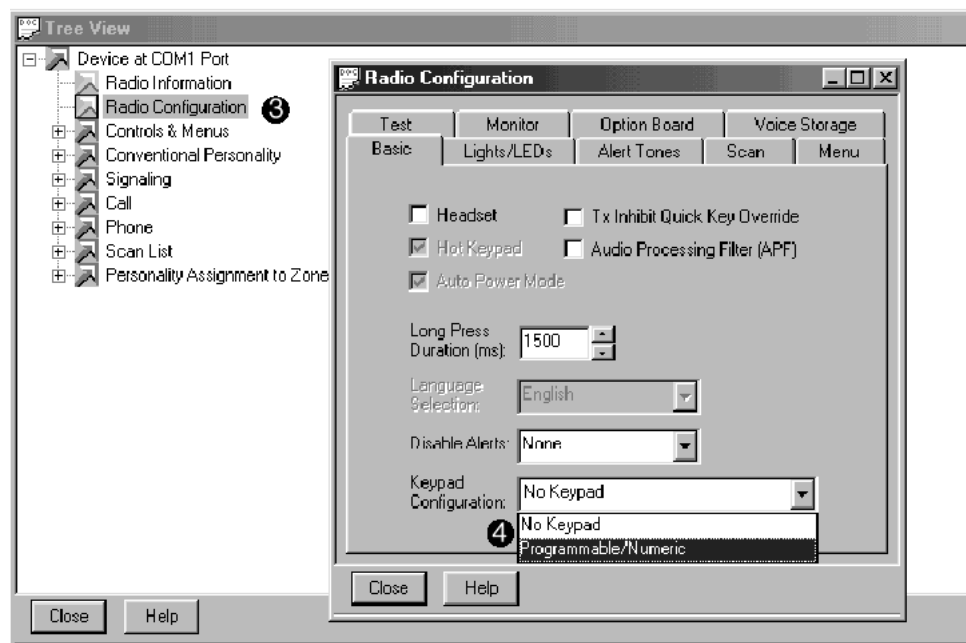

Figure 3-10: Activating the Retrofit
3. Open the *Radio Configuration* dialog box. (See Figure 3-10.)
4. Change the *Keypad Configuration* from “No Keypad” to “Programmable/Numeric”. (See Figure 3-10.)